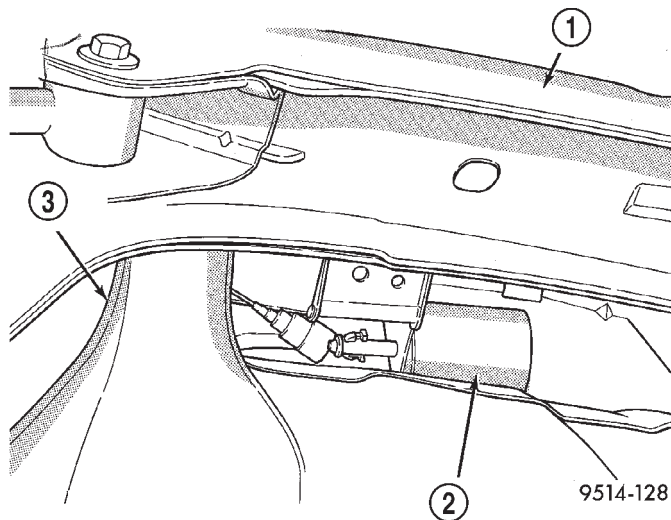

Fig. 14 Fuel Filter
- (7) Disconnect fuel supply line from the fuel brake module.
- (8) Remove fuel filter (Fig. 14).